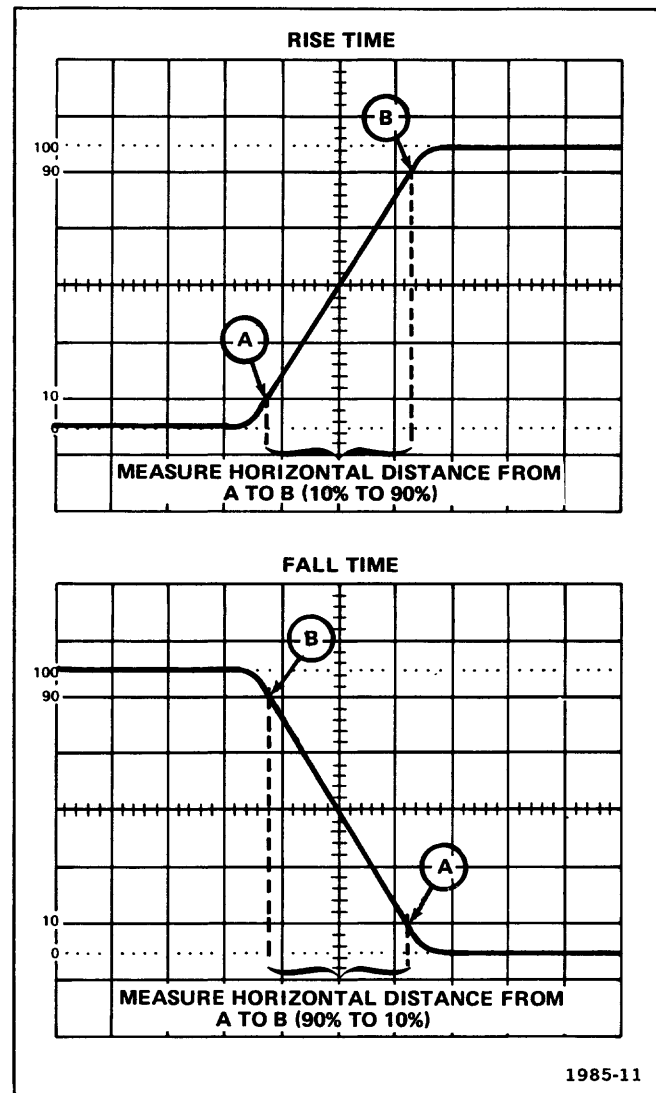

Fig. 1-7. Measuring the rise time and fall time of a displayed waveform.
6. Set the TIME/DIV switch and POSITION control to display the rising or falling portion of the waveform within the center 8 graticule divisions as shown in Figure 1-7 (see General Operating Information in this section for discussion of timing measurement accuracy).
or falling portion of the waveform that is 10% and the point that is 90% of the total display amplitude (see Figure 1-7).
Example: Assume that the horizontal distance from the 10 to 90% points is 2.5 divisions and the TIME/DIV switch setting is .1  $\mu$ s (see Figure 1-7).